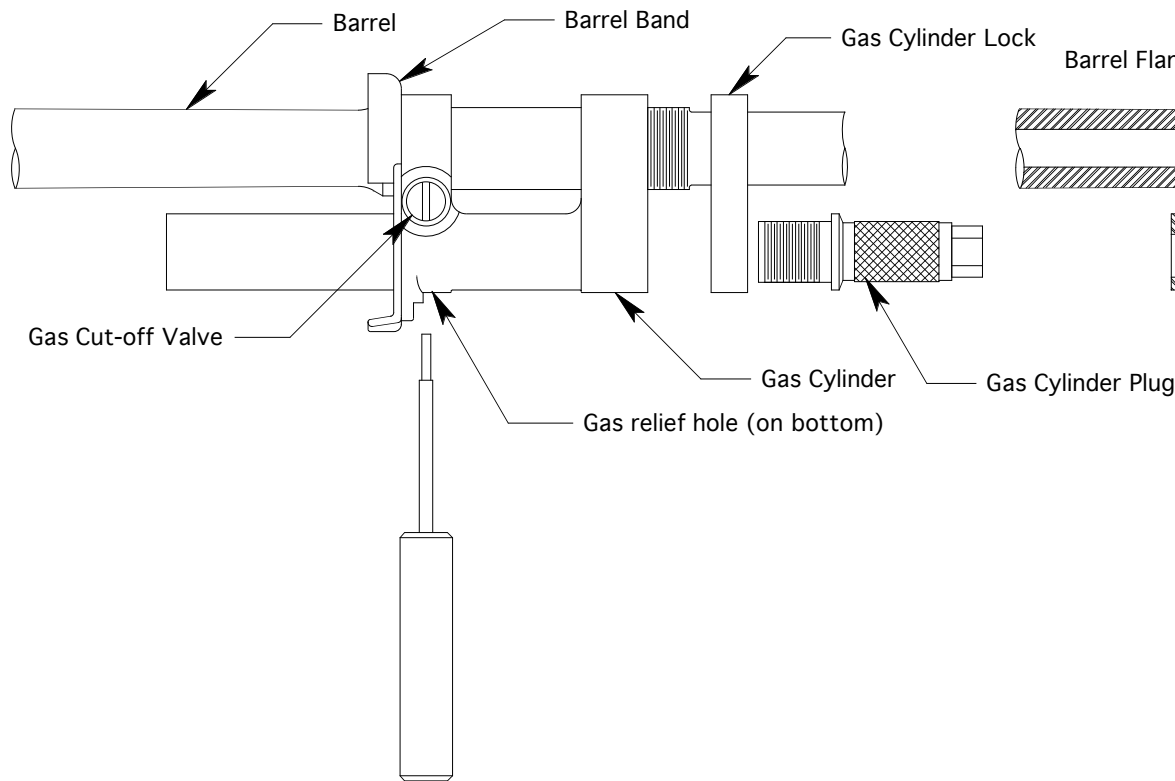
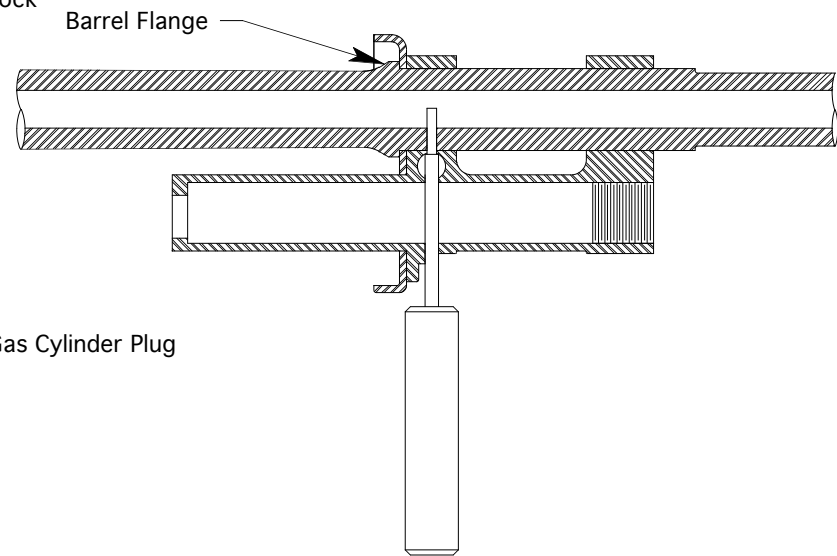

fig. 1
fig. 2
2. Remove the Gas Cylinder plug and unscrew the gas cylinder lock, (fig. 1) and remove gas piston.
3. With the gas cut-off valve open (fig. 1) insert gage into relief hole. The gage should protrude a minimum of 1" into the gas cylinder. (fig. 2)